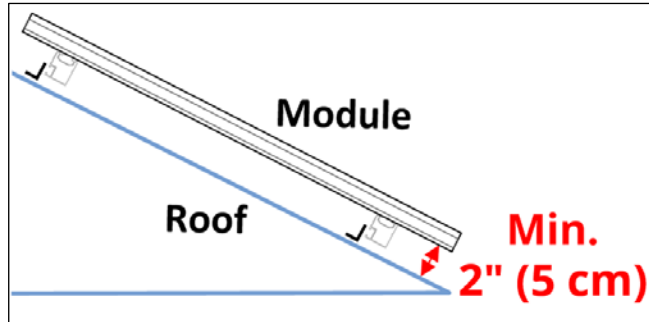

Fig. 10
**Important!** To provide proper ventilation to the underside of the module, you *must ensure* that there is a minimum of 2" (5 cm) between the module frame and the mounting surface (Fig. 10). (This is the minimum distance required for the inverter NRTL certification.)